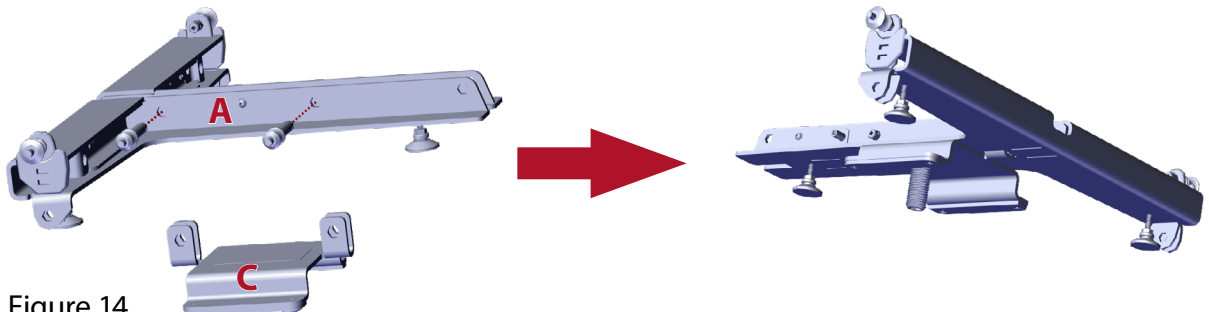

Figure 14
- Invert Flybar and pin M20 Mount Adapter (C) to Flybar Frame (A) using pins on frame (Figure 14).